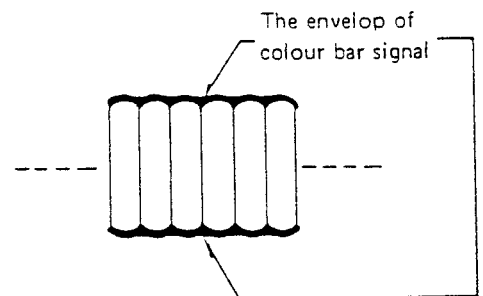

Fig. 19 SECAM Colour bar signal
- (c) Adjust L207 to make the envelop of colour bar signal into flat. (Fig. 19)